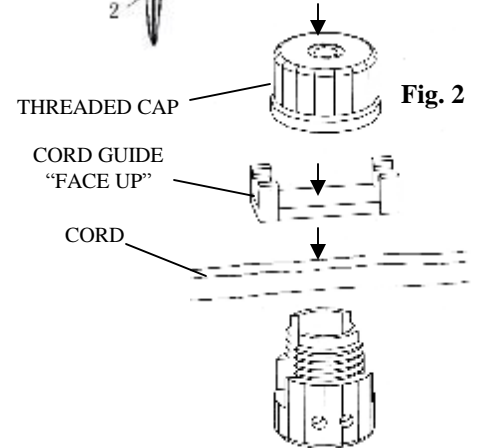

Fig. 2
- A. For very thick cord - Lay the cord in the wiring channel aligning the spike terminals with the center of each wire of the cord. Push the cord into the terminals until each spike terminal pierces thru each wire of the cord. Lay the cord guide "face up" against the top of the cord inside the channel. Replace the threaded cap. Be sure to secure the cap tightly. See Fig. 2. Discard the remaining cord guide.